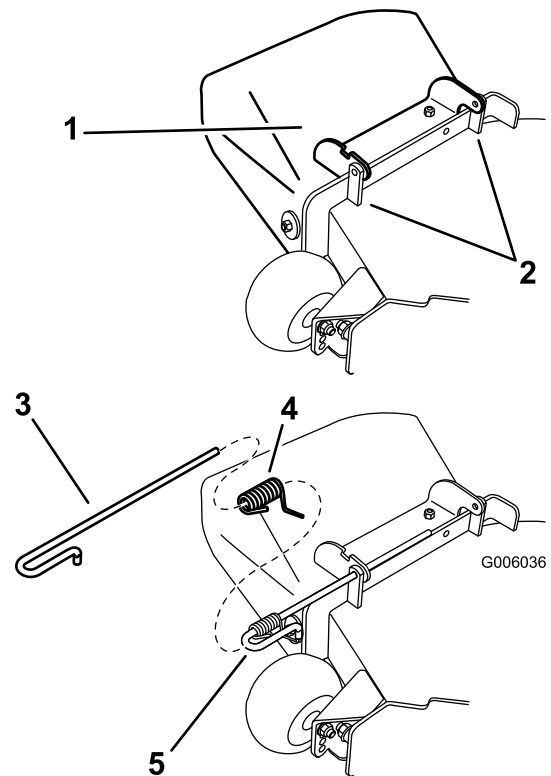

Figure 70
1. Disengage the spring from the notch in the deflector bracket and slide the rod out of the welded deck brackets, spring, and discharge deflector (Figure 70). Remove the damaged or worn discharge deflector.
2. Position the new discharge deflector assembly with the bracket ends between the welded brackets on the deck as shown in Figure 70.